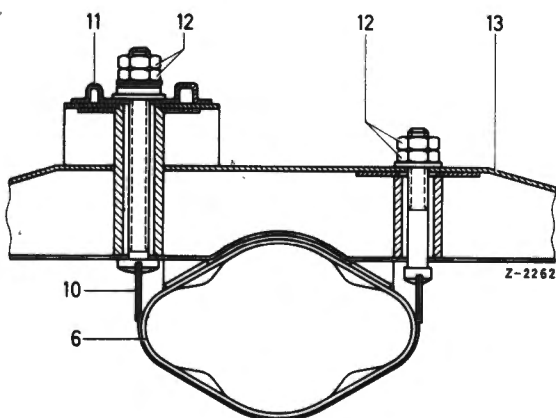

Fig. 29-1/6
5. On models with pistol-grip hand brakes unscrew the bearing bracket (10) for the ratchet from the pedal support (Fig. 29-1/5).
6. Unscrew the two hexagon nuts (1) which fasten the pedal support to the cross member (3) and remove together with the washer (2) (Figs. 29-1/2 and 6).